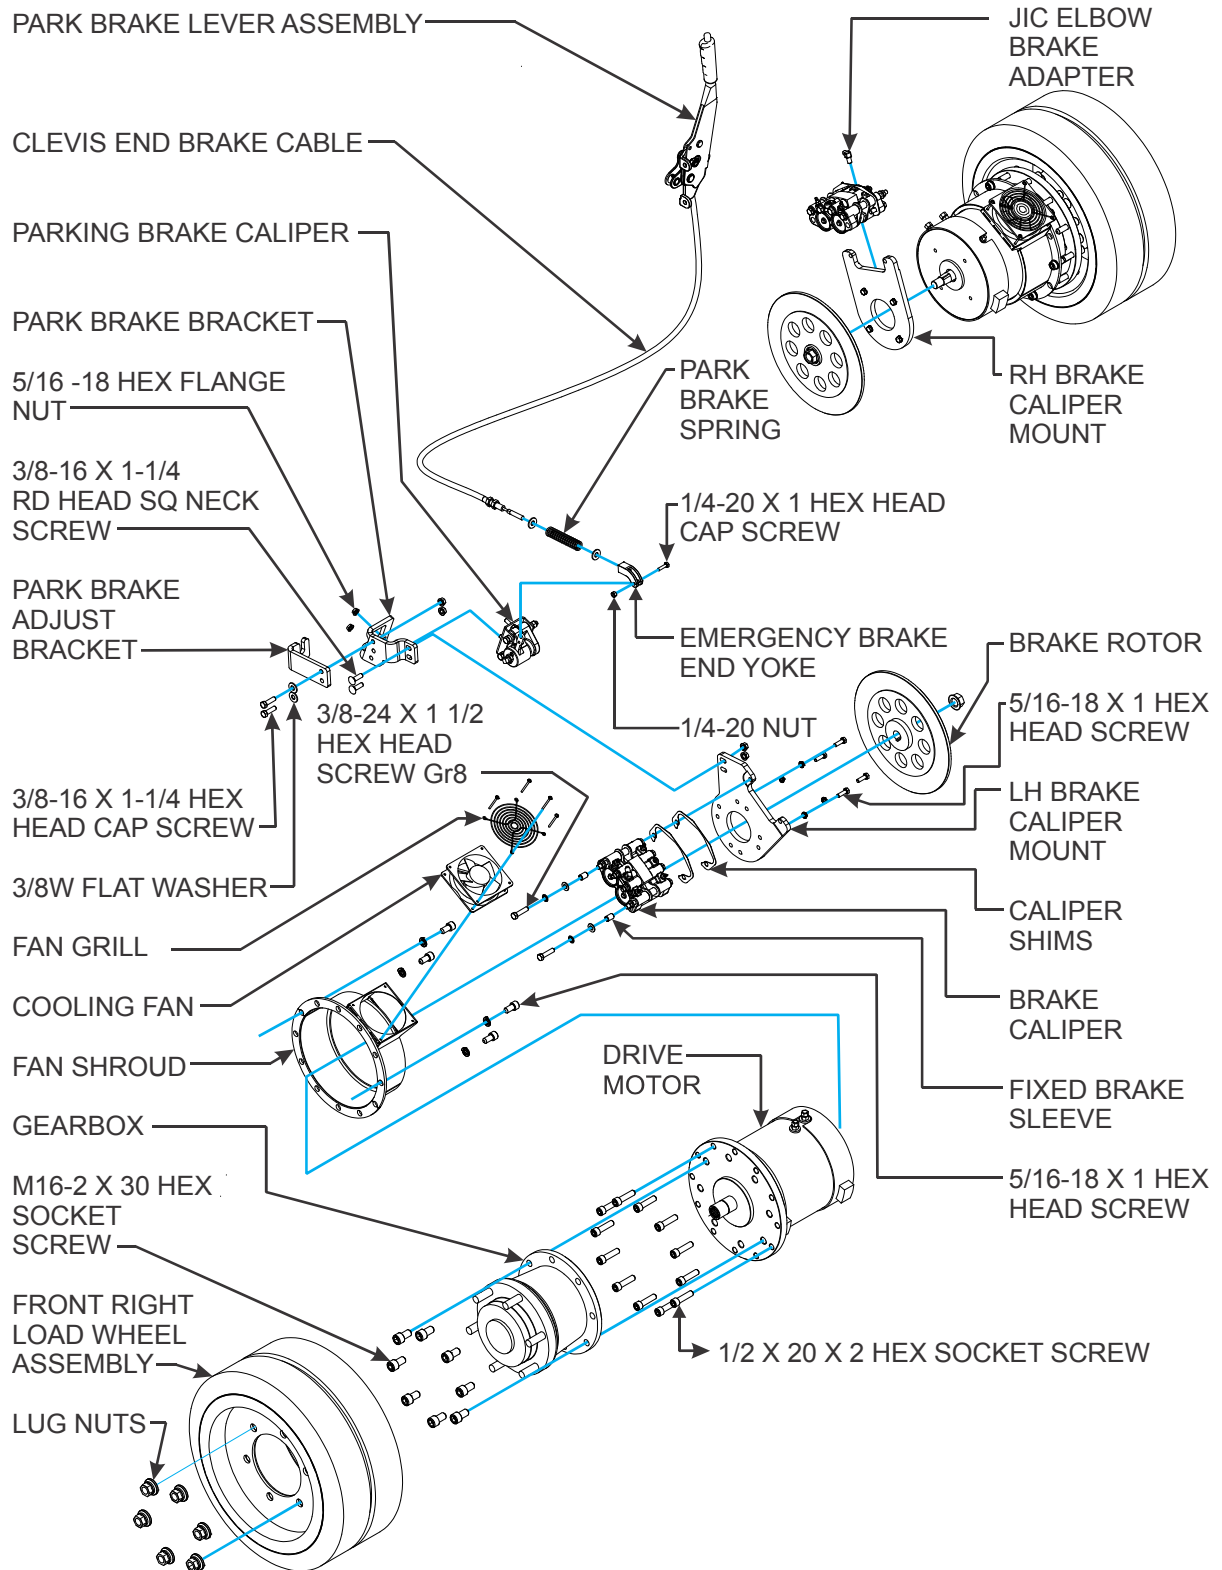

Figure 3-21: Load Wheel and Traction Drive Assembly
4. Remove the eight M16-2 x 30 hex socket screws and hardware holding the gear box to the truck frame (See Figure 3-21).
4. Remove the twelve 1/2-20 x 2 hex socket screws and hardware holding the motor to the truck frame (See Figure 3-21).
5. With the motor supported, rotate the motor to align the electrical connecting terminals to the slots machined in the truck frame side plate (See Figure 3-21).